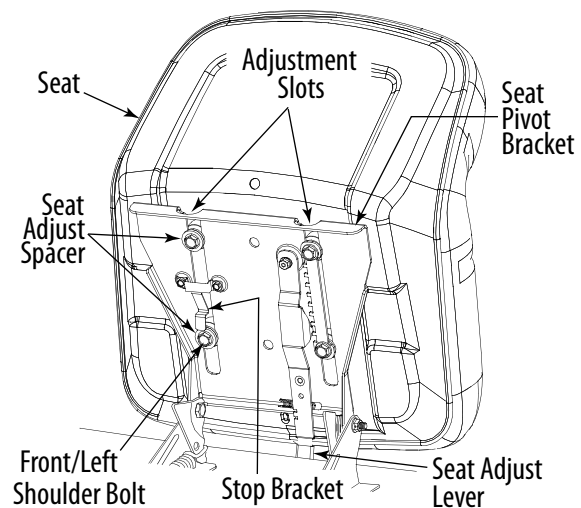

Figure 3-2
2. Pivot the seat pivot bracket partially upward. Refer to Figure 3-2.
6. Continue to push the seat forward in the pivot bracket until the front/left shoulder bolt of the seat assembly passes forward of the stop bracket on the seat pivot bracket. See Figure 3-2.